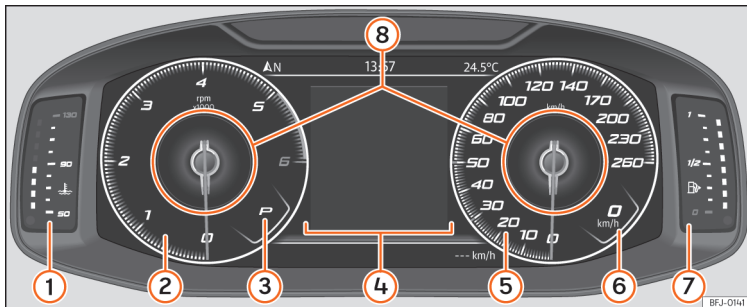

Fig. 107 SEAT Digital Cockpit on the instrument panel (classic view).
In *Classic View* and *Semicircular watches* it is possible to customise the information displayed under **Information Profiles** » **Fig. 107** ⑧.
»» Fig. 107.